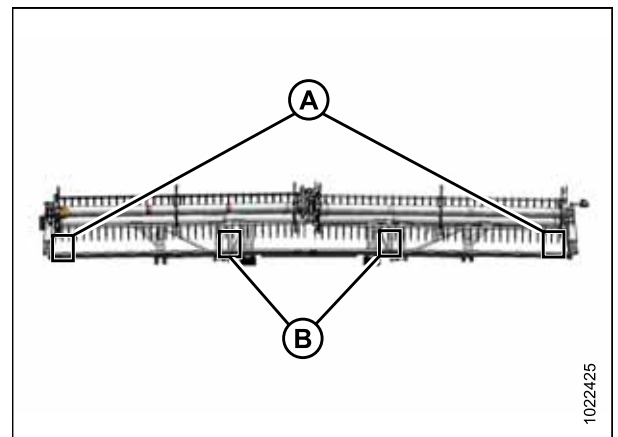

Figure 5.210: Measurement Locations
8. Measure the clearance (X) between points (C) and (D) at the ends of each reel (A), and at the flex locations (B). (Refer to Figure 5.210, page 479 for measurement locations.)